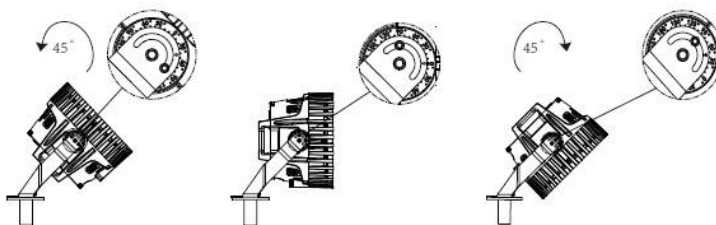

Figure 9
2. Adjust the vertical projection as needed $\pm 45^\circ$ then re-tighten the screws. (Figure 9).